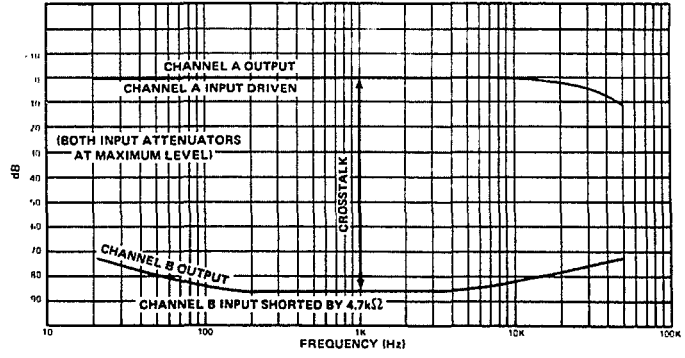

Fig. 10 - Crosstalk (Channel Separation)
**Channel Separation:** (Refer to Figure 10.)
## CHANNEL SEPARATION (Refer to Figure 10)